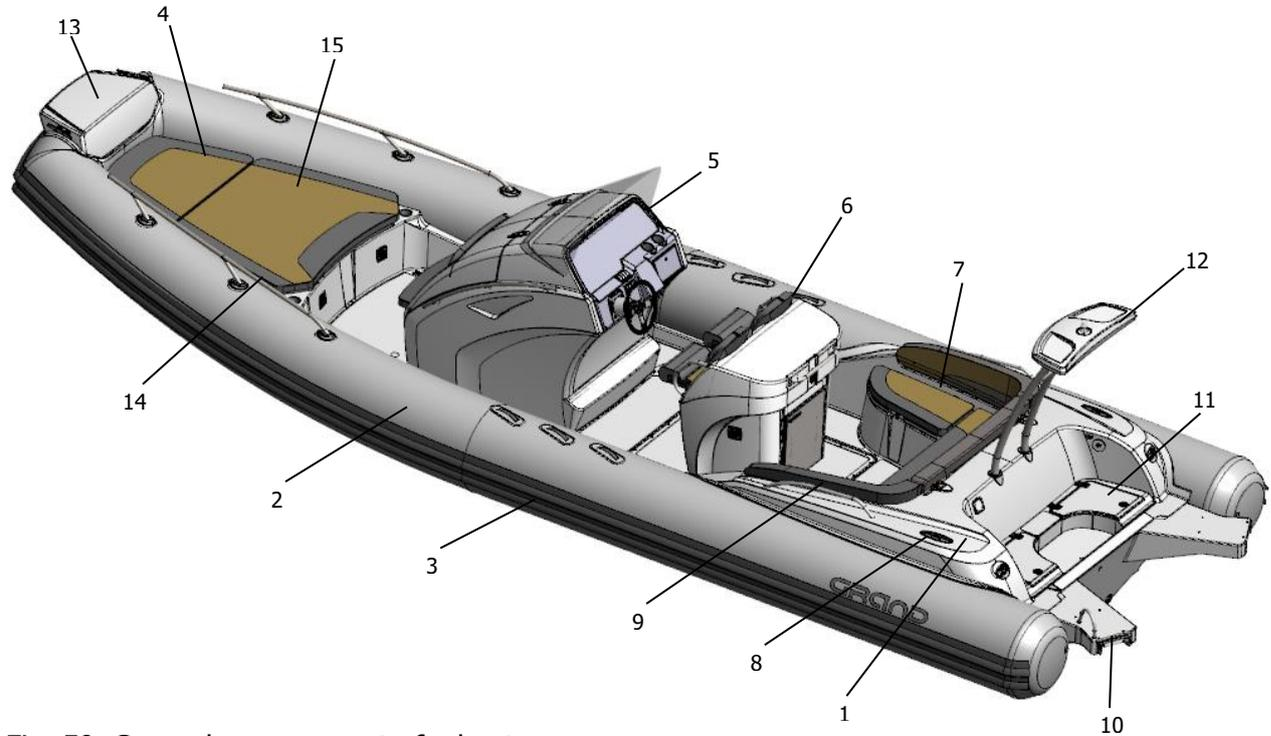

Fig. 59. General arrangement of a boat.
**General arrangement of a boat** (see fig. 59 on the previous page):